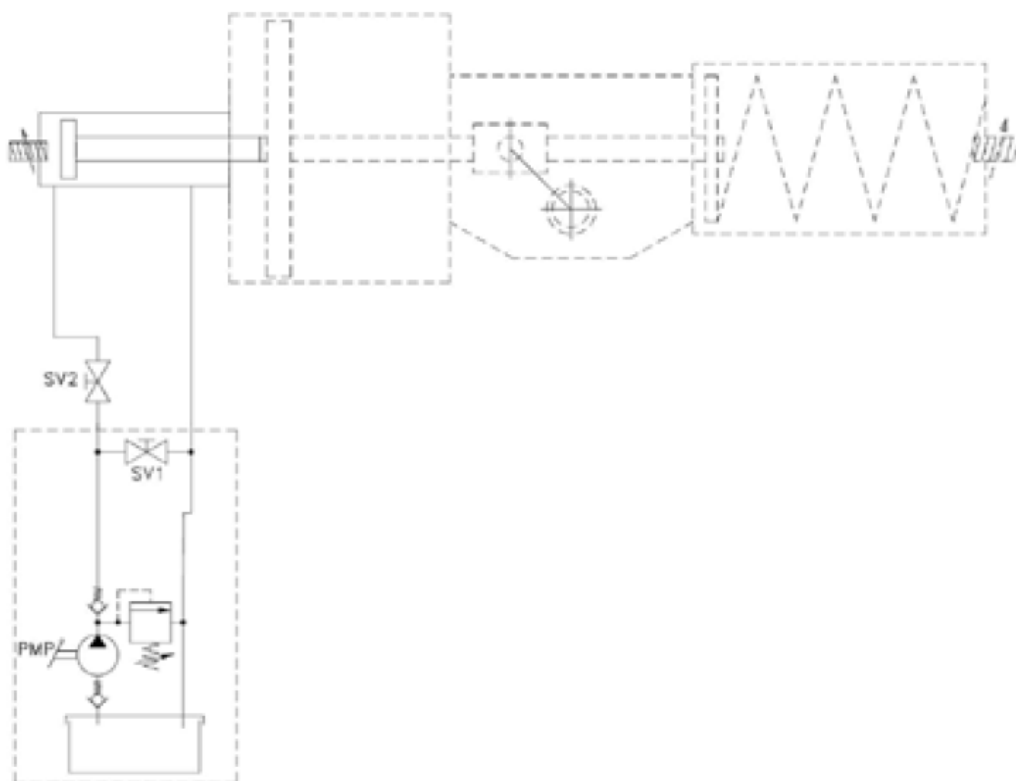
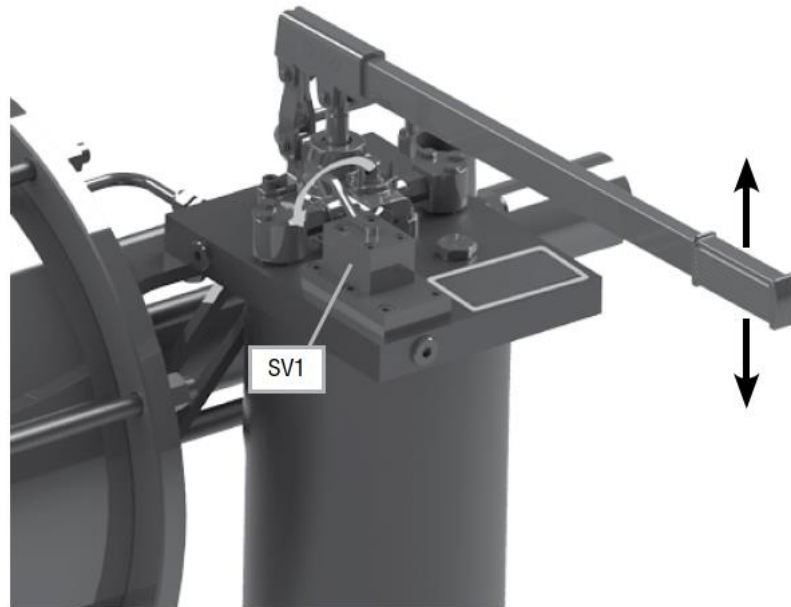

Figure 12 – Hydraulic Diagram LPS Single-Acting Actuator with Hydraulic Override
Figure 13 – Details of Hydraulic Hand Pump Manual Override for Single-Acting Actuator
3.1.2.1.2 Referring to the schematic diagram (Figure 12), switch the manual stop valve SV1 in "MANUAL" position, as shown in the nameplate located close to the manual isolation valve (Figure 13).
3.1.2.1.4 To compress the spring, operate the PMP manual hand pump, acting on the lever (Figure 13).
3.1.2.1.6 To release the spring from the compressed position, open the manual valve SV2 (if it is present) and switch slowly the manual stop valve SV1 in "AUTOMATIC" position, as shown in the nameplate located nearby (Figure 13).
3.1.2.2.1 Open and keep open the manual stop valve SV2 (if it is installed), and switch slowly the SV1 manual stop valve in "AUTOMATIC" position, as shown in the nameplate located nearby (Figure 13).